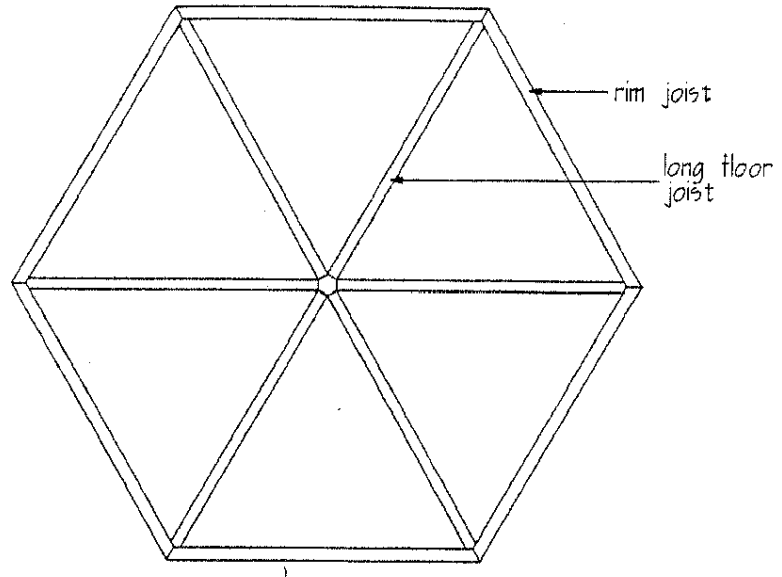

Figure B3
3. Put the 6 Long FLOOR Joists into place, like spokes in a wagon wheel. The beveled or pointed end of the Long FLOOR Joists fits into the angle formed by the Rim Joists. See **Figure B3**.